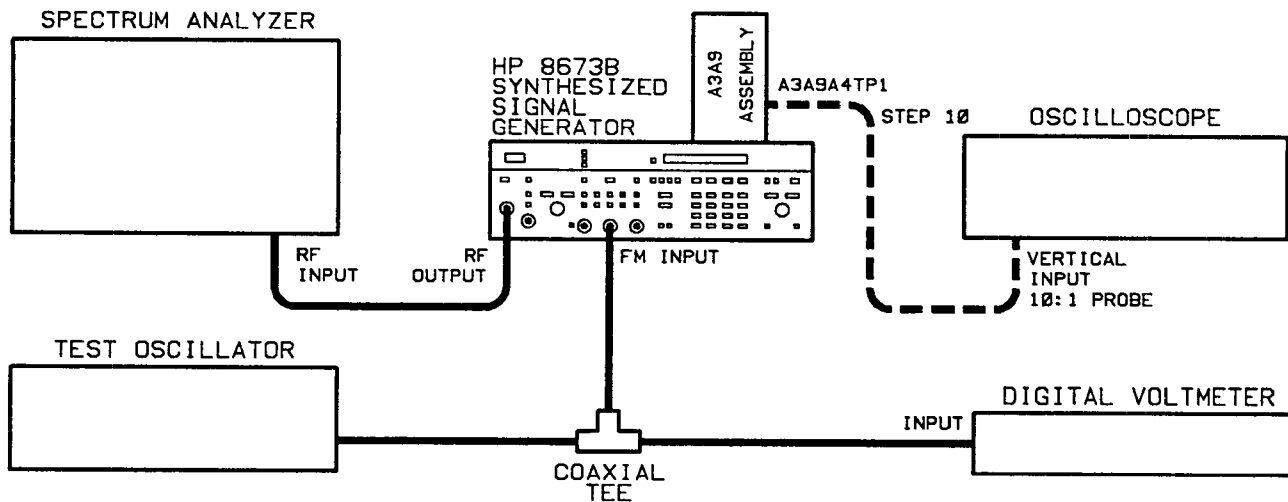

Figure 5-12. YTO Loop Offset and FM Overmodulation Adjustment Test Setup
4. Connect the equipment as shown in figure 5-12. Connect the Signal Generator's mains power cord and set the LINE switch to ON.